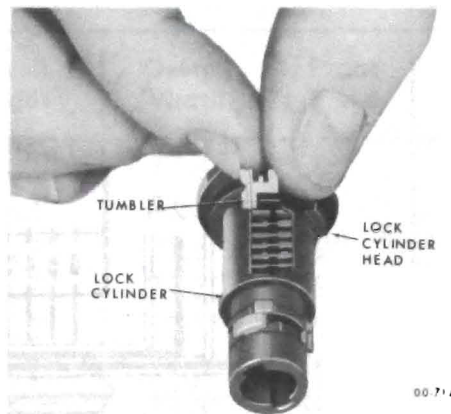

Figure 00-7 - Installing Tumblers
1. Hold cylinder with head of cylinder away and starting at the head of the cylinder, insert the tumblers in their proper slots in the order called for by the code, ribbed side toward you and long point down. See Figure 00-7.